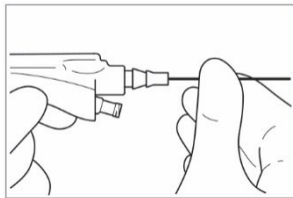

Figure 2
- Load the fiber into the working lumen of XprESS (Figure 2).